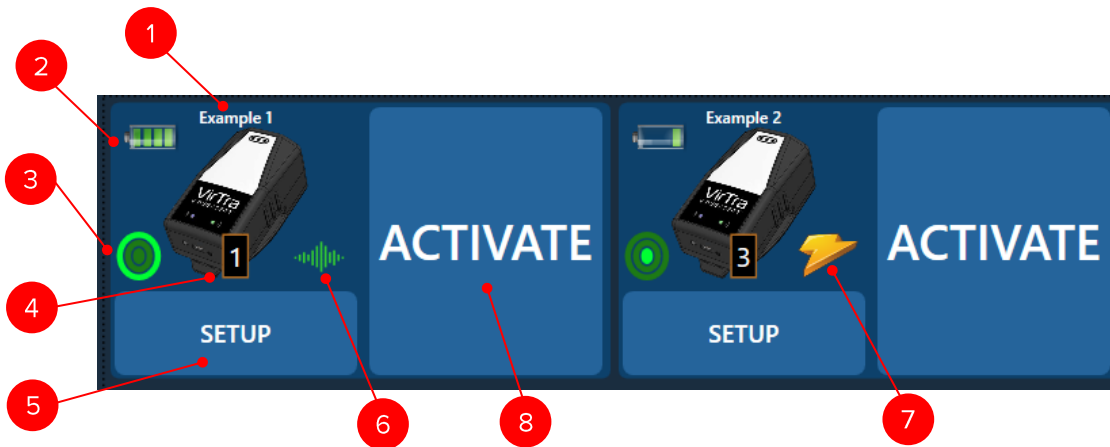

Fig. 7
f. V-Threat-Fire Interface Details (Fig. 7)